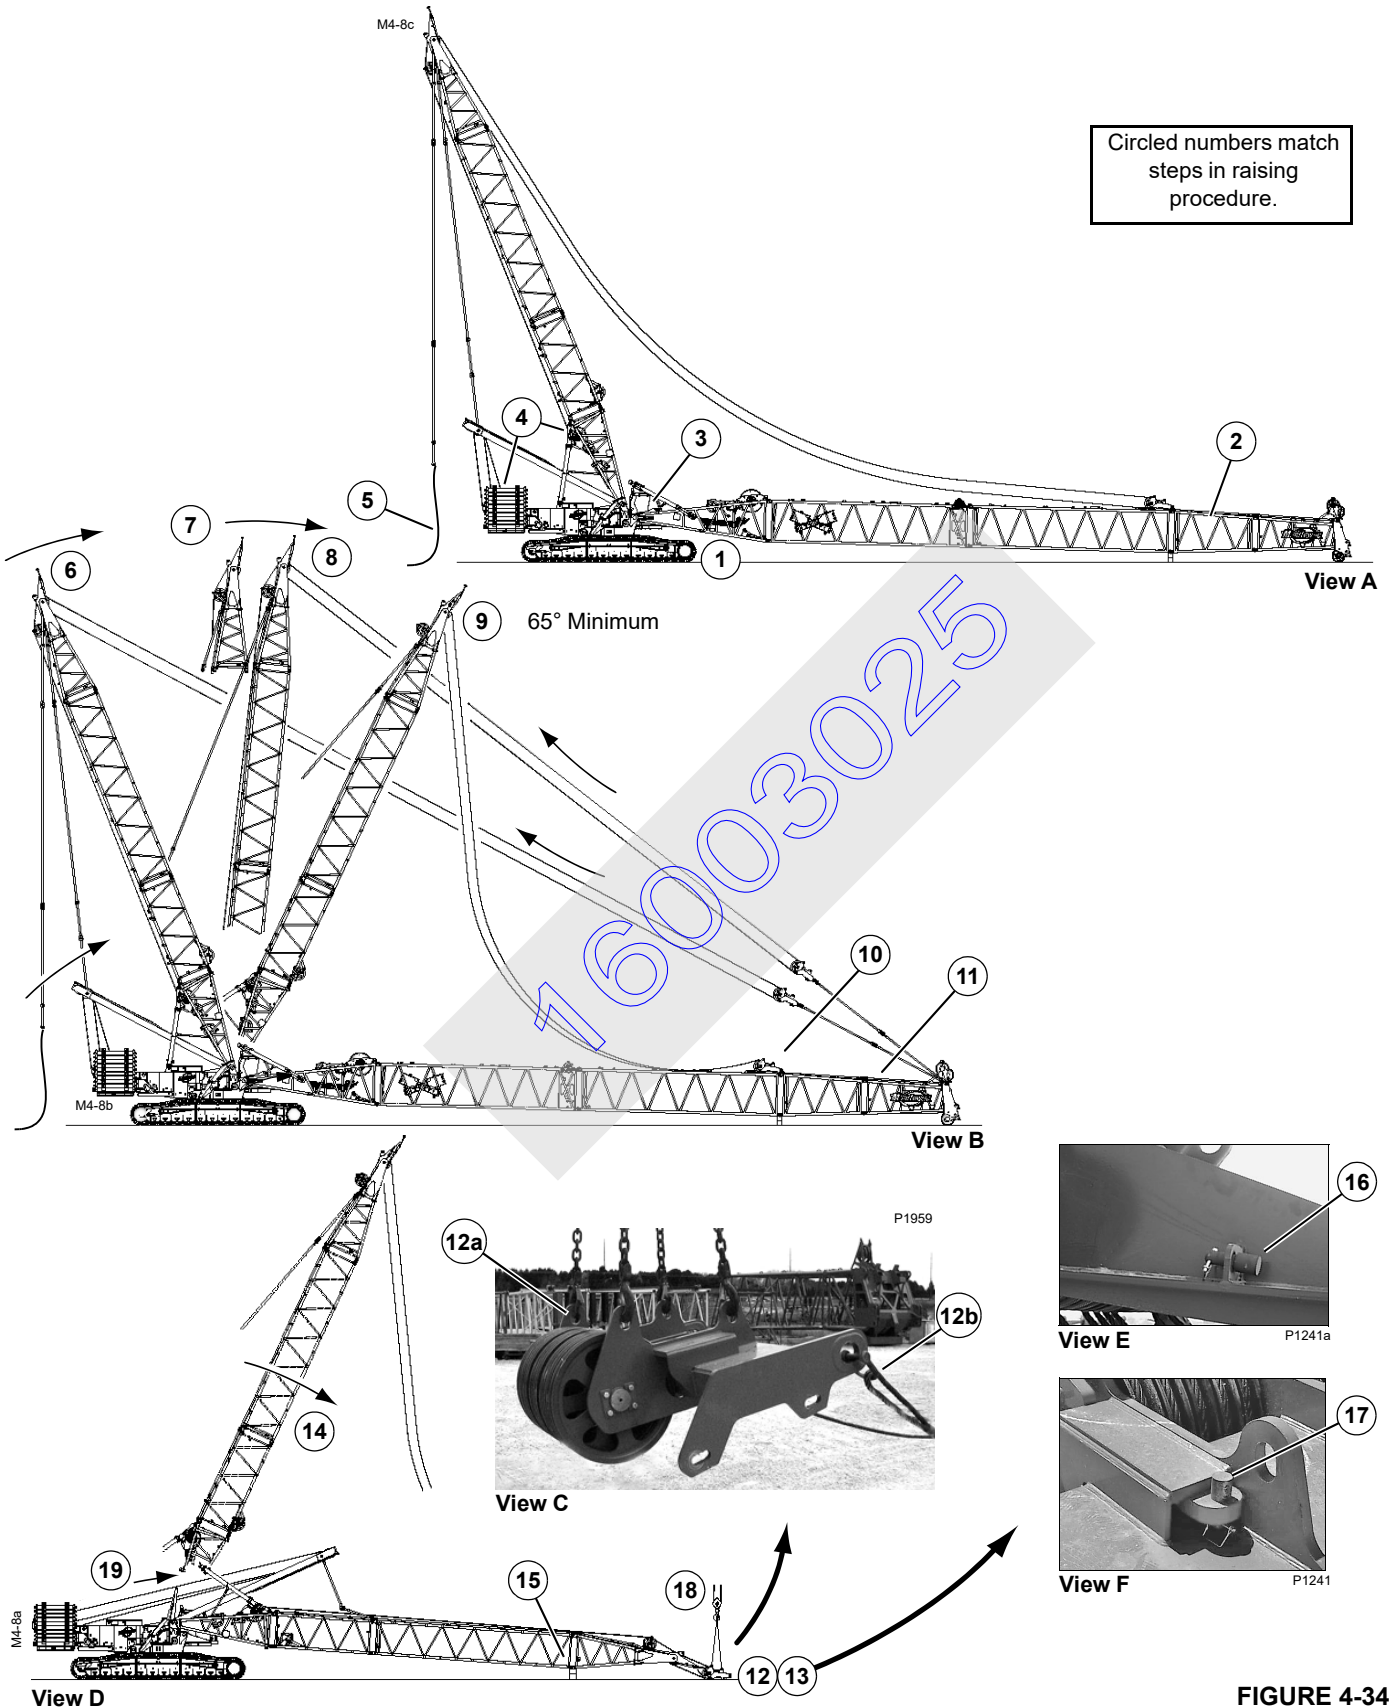

FIGURE 4-34
Circled numbers in Figure 4-34 match the following steps.
4. Install mast top (2):
- a. Check that retaining pins (17, Figure 4-34, View F) are installed in equalizer forks so boom hoist equalizer cannot fall off forks while performing step 4c.
- b. Attach lifting slings from assist crane to lifting lugs (1, View G) on mast top (2).
- c. Lift mast top into position at end of mast butt so fixed pins (4, View A) in top engage hooked connectors (5) in butt.